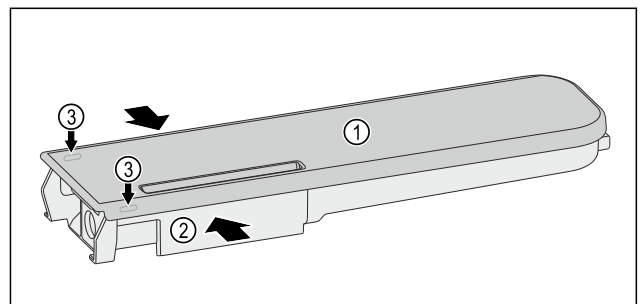

Fig. 130
- ▶ Squeeze the water tank Fig. 130 (2) and carefully lever the cover Fig. 130 (1) over the latches Fig. 130 (3) pull it up.
- ▶ Slightly move the cover Fig. 130 (1) back and forth and remove it from the top.